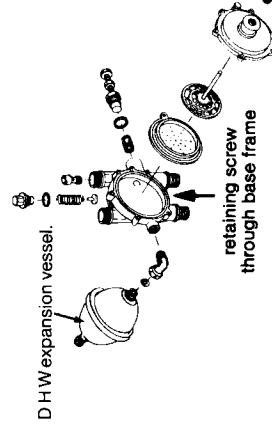

Fig. 30
- 8.17.5 Remove manifold (fig. 30) gives details of further disassembly.